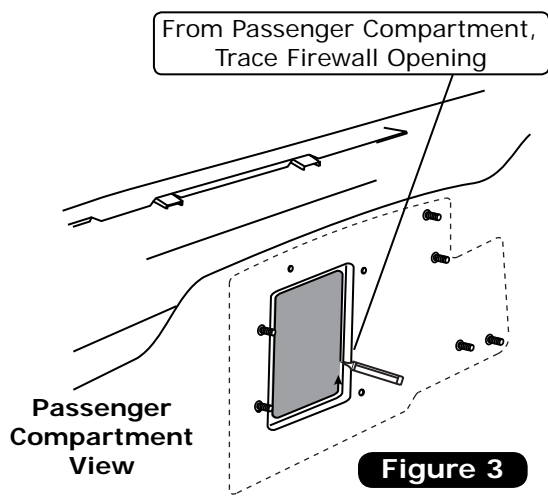

Figure 3
4. From the passenger compartment, trace around the firewall opening onto the firewall cover (See Figure 3, below).